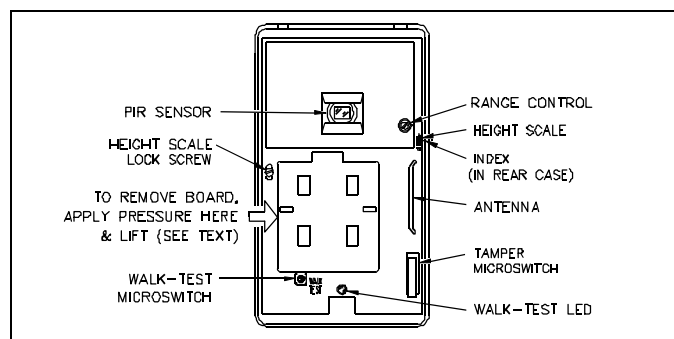

Fig. 2. GEM-DT, front cover removed.
2. Remove the circuit board: apply pressure against the left side of the cavity and lift out. See Fig. 2.
The Height Scale must be set to obtain the maximum recommended coverage. Remove the front cover; the Height Scale is printed along the edge of the circuit board at the lower-right corner of the shield (see Fig. 2). Scale calibrations represent sensor mounting height. To set, loosen the Lock Screw and slide the board up or down, and align the index in the case with the calibration representing the mounting height of the unit. Then tighten the Lock Screw (do not overtighten!).
The walk-test mode is entered by holding down the WALK TEST microswitch (see Fig. 2) as follows: